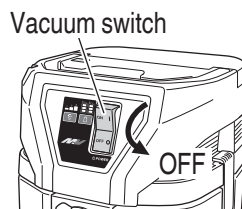

Fig. 9
1. **Confirm that the vacuum switch is OFF. (see Fig. 9)**